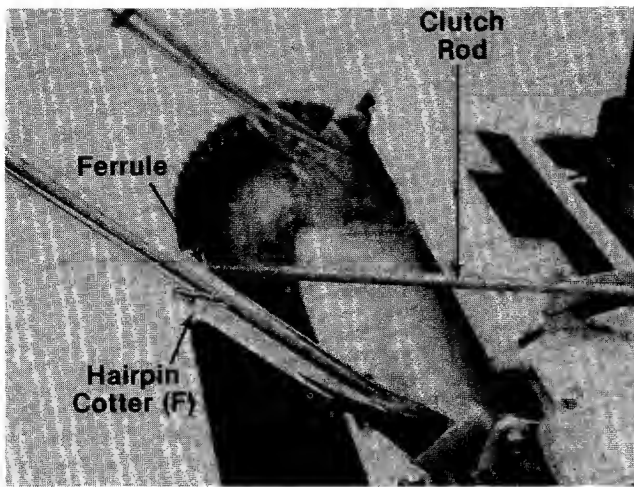

FIGURE 10.
18. Pivot the clutch rod back. Thread the ferrule onto the clutch rod until the ferrule lines up with the hole in the lower handle. Secure ferrule in handle with hairpin cotter (F) as shown in figure 10. Check for 1/16" clearance between drive pinion and front wheels. **Refer to Clutch Rod Adjustment on page 11.**
1. Remove the cotter pin. See figure 10.